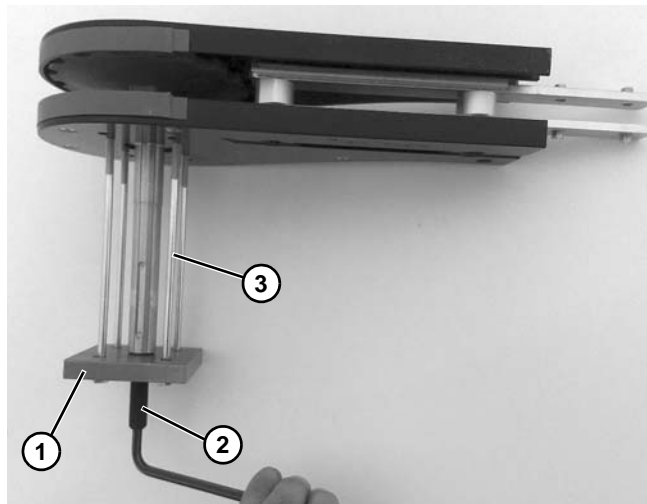
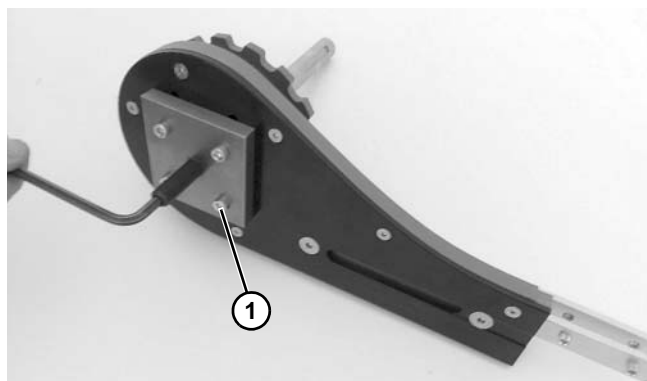

Figure 120
Figure 121
6. Use the bearing tool (**Figure 120, item 1**) to unseat bearings by inserting the four screws and turning the threaded rod (**Figure 120, item 2**) to push bearing out. NOTE: Insert the longer screws (**Figure 120, item 3**) on the drive shaft side and the shorter screws (**Figure 121, item 1**) on the non-shaft side.